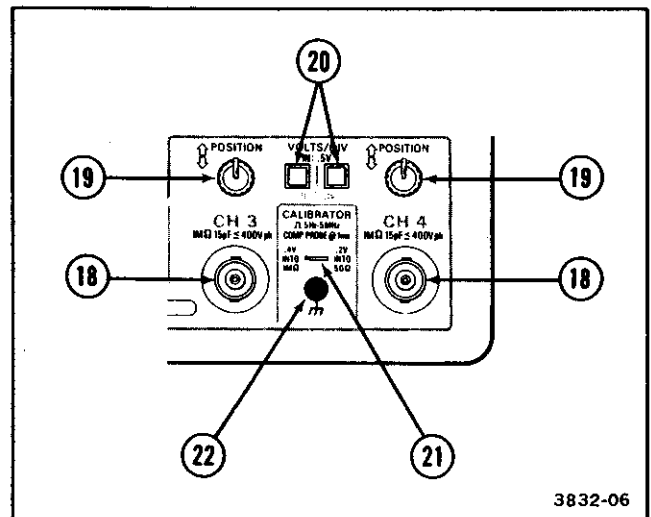

Figure 2-4. Channel 3 and Channel 4 controls and connectors and CALIBRATOR output.
- ⑰ **20 MHz BW LIMIT Switch**—Reduces upper 3 dB bandpass of the vertical deflection system to a limit of 13 to 24 MHz when latched in. Full instrument bandwidth is available when push button is out.
Refer to Figure 2-4 for location of items 18 through 22.
- ⑱ **CH 3 and CH 4 Input Connectors**—Provide for application of external signals to Channel 3 and Channel 4. Input coupling from these connectors is DC only. Coding-ring contacts, identical in operation to the CH 1 OR X and CH 2 input connectors, are also provided. Channel 3 and Channel 4 are most useful as digital signal and trigger signal input channels, given their limited choice of deflection factors.
- ⑲ **POSITION Controls**—Set vertical position of the Channel 3 and Channel 4 signal displays. The controls operate identically to the Channel 2 POSITION control, but with less range on their associated traces.
- ⑳ **Channel 3 and Channel 4 VOLTS/DIV Switches**—Select either of two basic deflection factors for Channel 3 and Channel 4. With the push button OUT, the basic deflection factor (using a 1X probe or a coaxial cable input connection) is 0.1 V per division; when it is latched IN, deflection factor is 0.5 V per division.